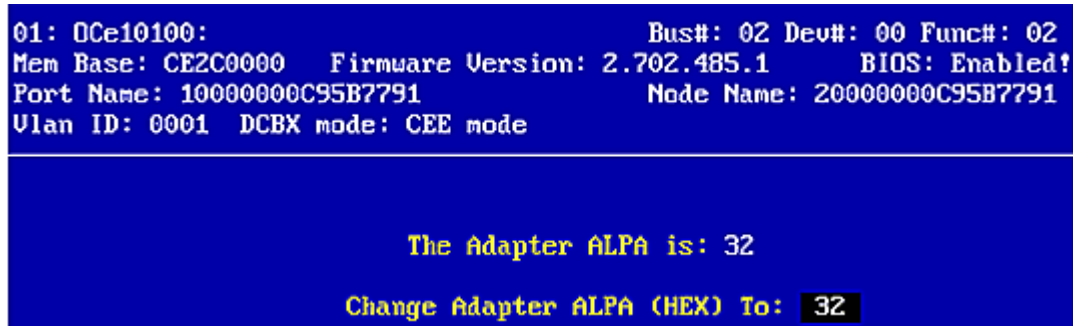

Figure 5-19 Change Default ALPA Screen
2. Select **Change Default ALPA** of this adapter and press **<Enter>**. Information similar to Figure 5-19 is displayed.